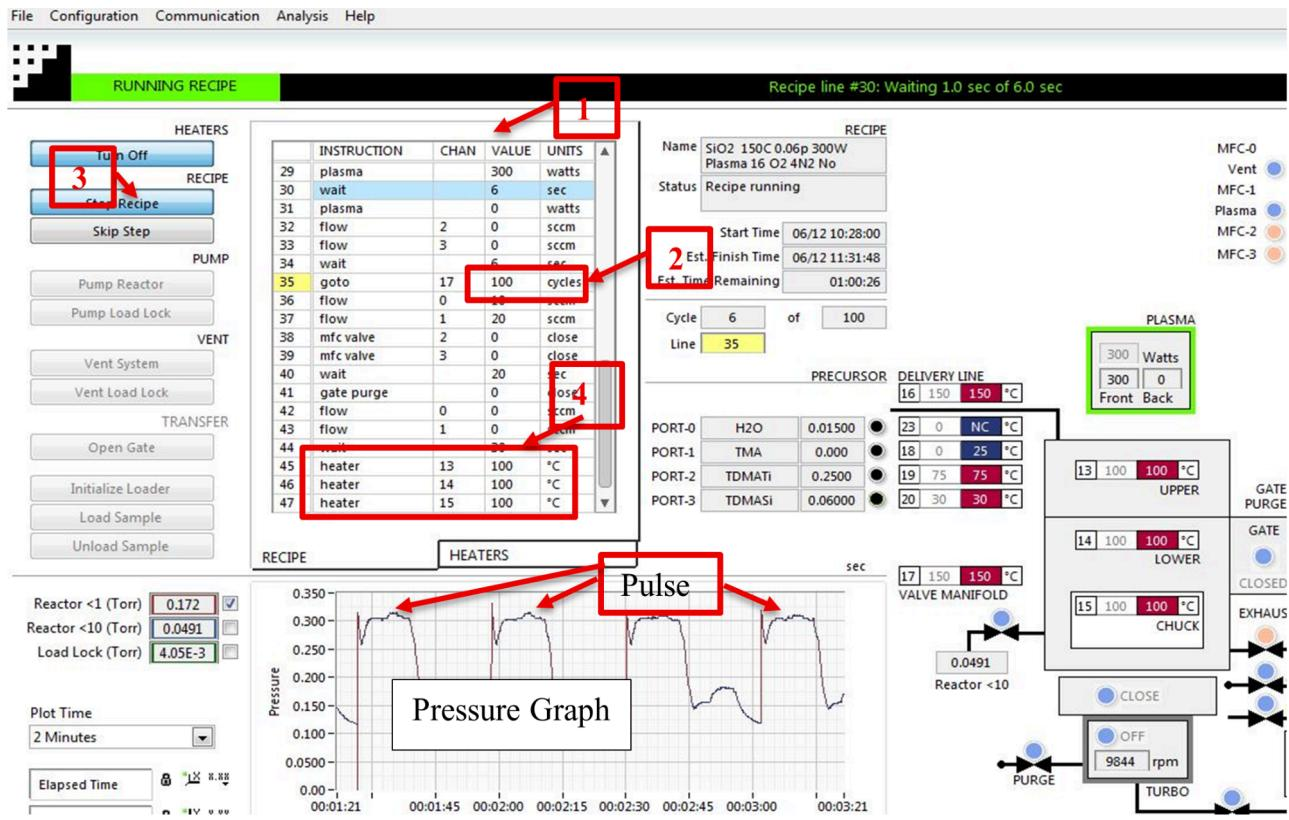

Figure 7 Loading recipe and modifying parameters
1. Right clicking anywhere in the CURRENT RECIPE window (see **figure 7**), [step 1]